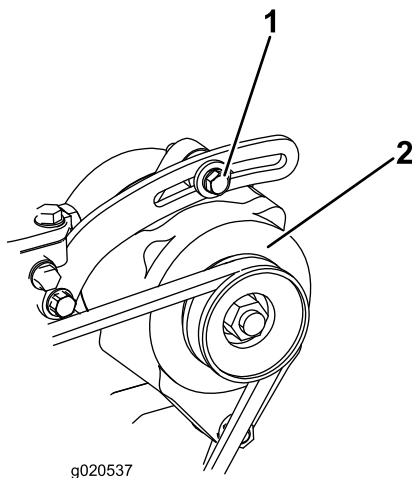

Figure 85
Check the condition and tension of the belt (Figure 85) after every 100 operating hours.
2. If the deflection is not 10 mm (3/8 inch), loosen the alternator mounting bolts (Figure 85). Increase or decrease the alternator belt tension and tighten the bolts. Check the deflection of the belt again to ensure that the tension is correct.